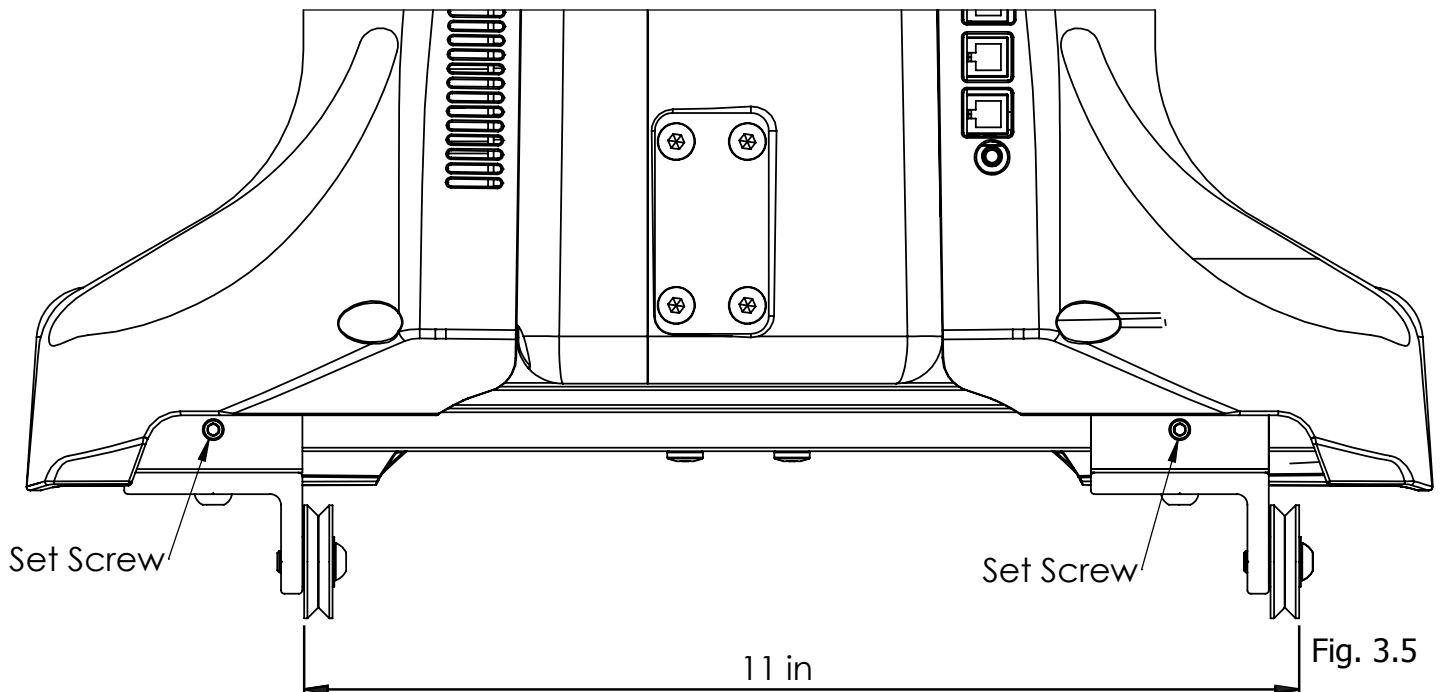

Fig. 3.5
Step 5: Loosen the set screws on the Wheel Blocks using a 3mm Allen Wrench. Then re-position the outside face of the wheels to be 11 in (~28mm) apart as shown in Fig. 3.5. Finally, tighten the set screws back in place.